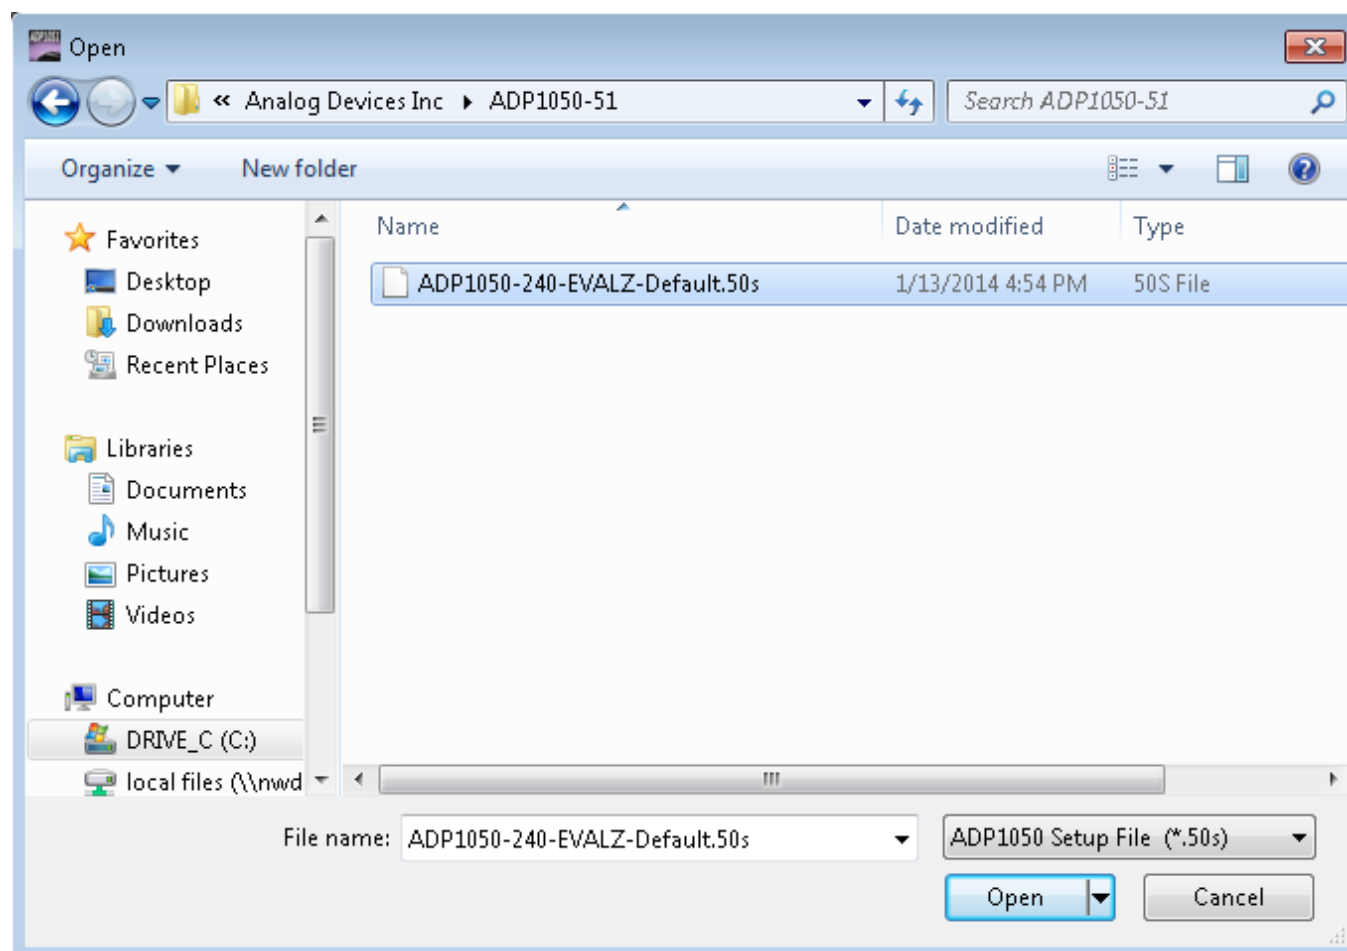

Figure 9. Load Board and Command Settings File
**Default.50s** file when specifying the folder, as shown in Figure 9. Because the **ADP1050** in the evaluation kit is preprogrammed with the board and command settings, this step is optional.